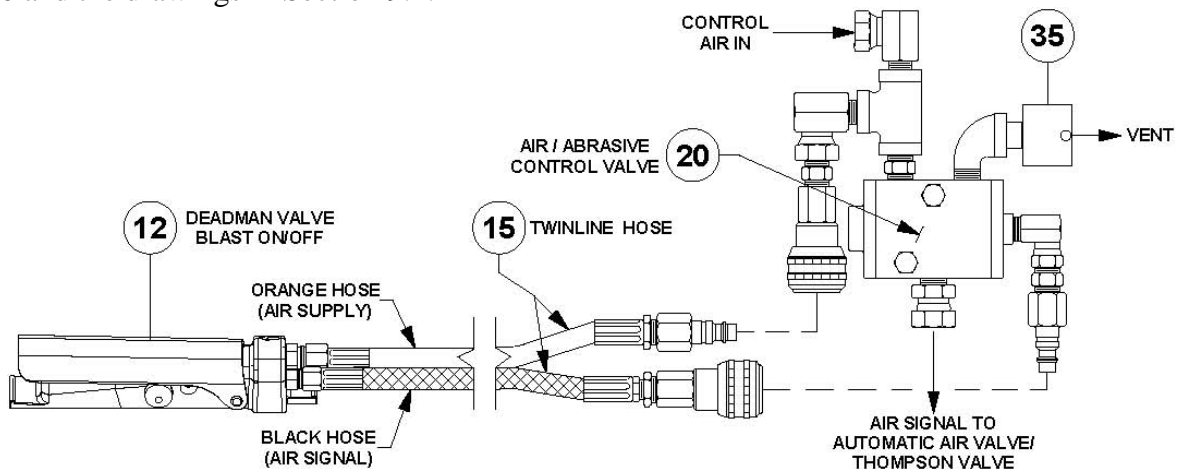

Figure 5.10 – Thompson Valve Pneumatic Blast Control System
5.22.1. Pneumatic Deadman System: When the pneumatic deadman lever is pressed down, air supply from the orange hose of the twinline hose (#15) flows into the black hose. Air flows through the black hose to the signal port of the control valve (#20) causing it to open and send air signals to the auto air valve (#9) and the Thompson Valve (#14). When the deadman lever is released the air signal is cut off and the remaining air vents from the breather (#35). See Figure 5.10 and the drawings in Section 9.4.